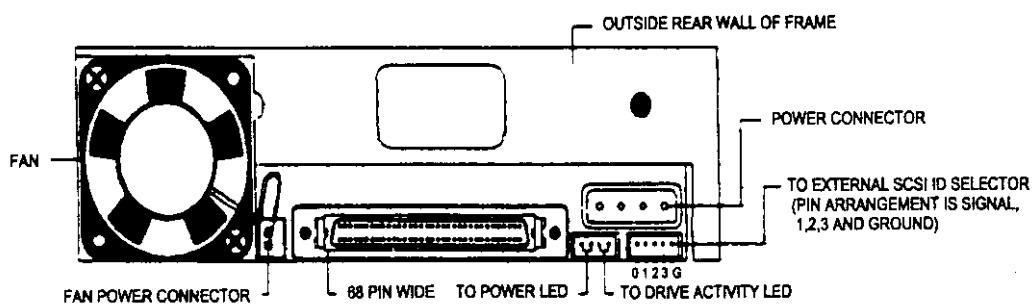

Figure 2.4 Mobile Rack Frame Back View
- If you are using an external SCSI ID selector, connect your external SCSI ID connector to the back of the frame. The external ID selector only has 4 pins because all 3 common ground pins share a single pin. Since every hard drive SCSI ID selection is different, we suggest that you test that ID selector before closing the computer case. See Figure 2.4 for the back view of the Mobile Rack frame.